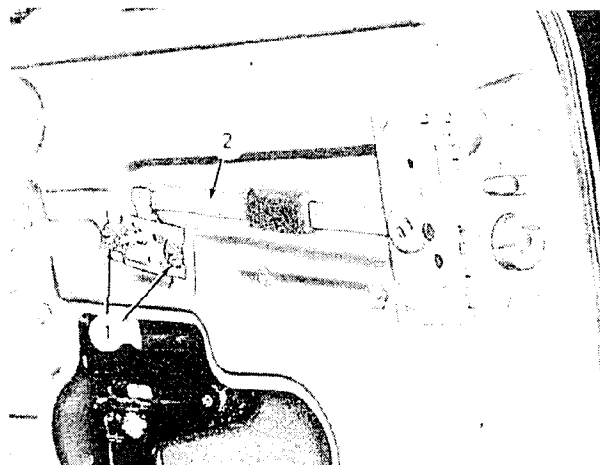

FIG. 29
Remove the remote control-to-door screws (1, Fig. 29). Then, turn the assembly 90° clockwise and pull it out of the slot of the control link (2).